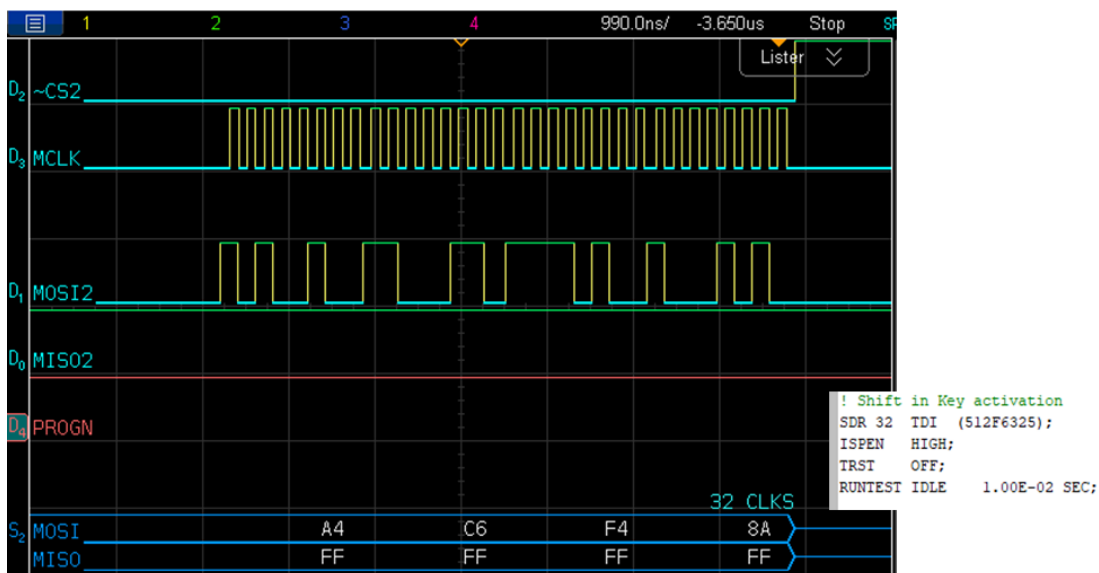
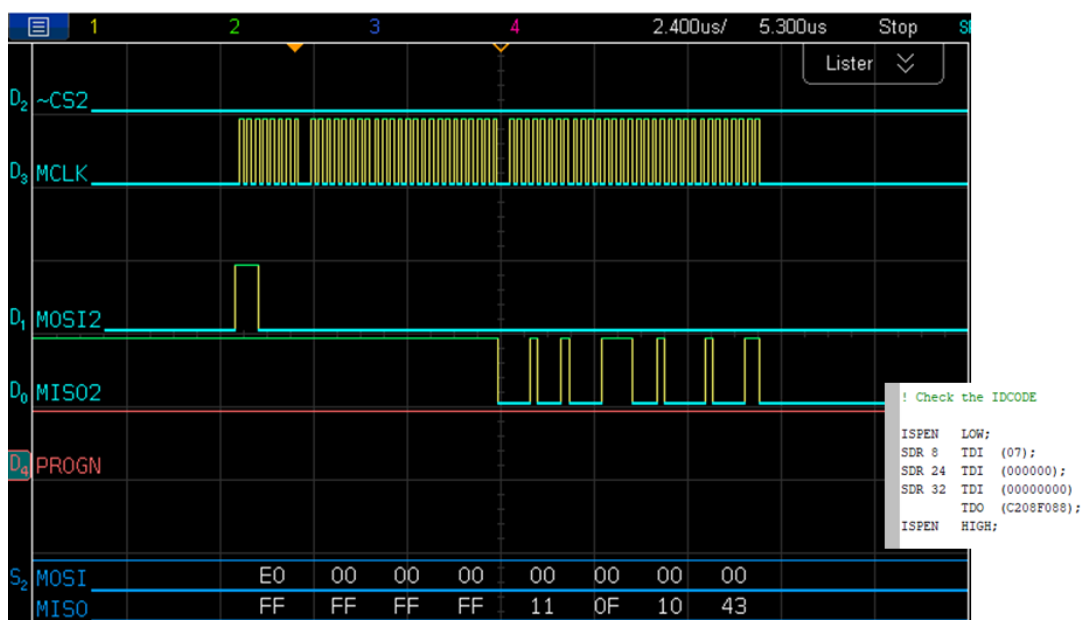

Figure 6.4. Shift in Activation Key
Figure 6.5. READ_ID Command and Device IDCODE Readout
4. The sequence provided in the SVF file is what the Radiant Programmer does in the operation the user saves in the .xcf file. Figure 6.4 and Figure 6.5 show the waveforms that correlates with the sequence.